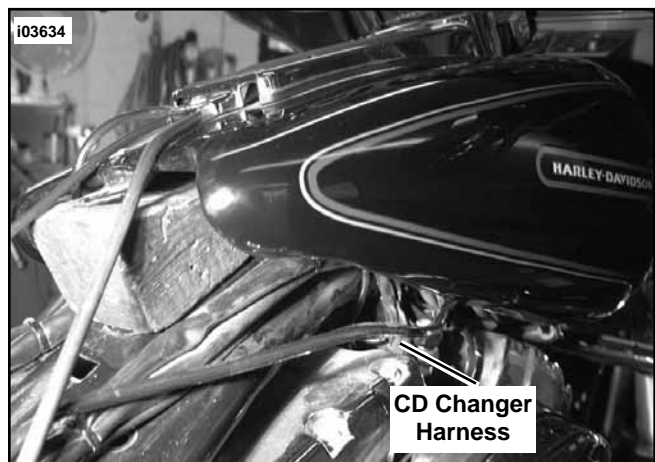

Figure 13. Harness Routing
41. See Figure 13. Continue routing harness up under fuel tank toward forks.